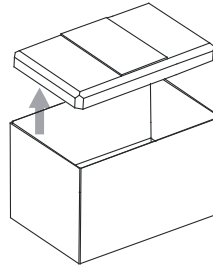

Fig. 2-7
2. Lift the foam on the UPS module upward to remove them (see Fig.2-7);